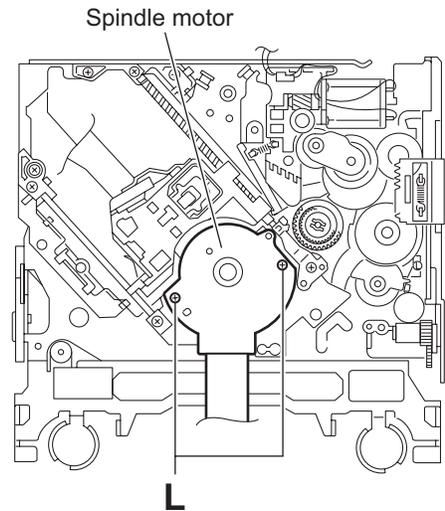

Fig.20
3.2.10 Removing the spindle motor (See Fig.20)